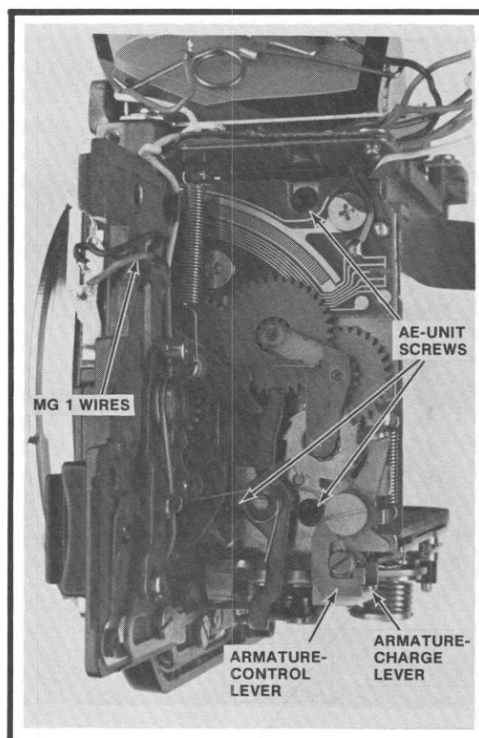

Figure 54
3. Pull the red and black MG1 wires loose from the cement on the back of the front plate, Fig. 54. The wires remain attached to MG1. You'll find it easier to reroute the wires if you first remove the stop-down slide.
5. Remove the three screws holding the AE unit, Fig. 54. The screws for the AE unit are longer than the screws holding the other two units. Now pull the AE unit a slight distance from the mirror housing—that moves MG1 away from one of the screws holding the auto-diaphragm unit, Fig. 56.
2. Assemble the AE unit to the auto-diaphragm unit. Make sure the pivoted arm of the reset lever hooks behind the S.AVE-contact latch, Fig. 56. Also hook the armature-charge lever behind the lower end of the armature-control lever, Fig. 54.